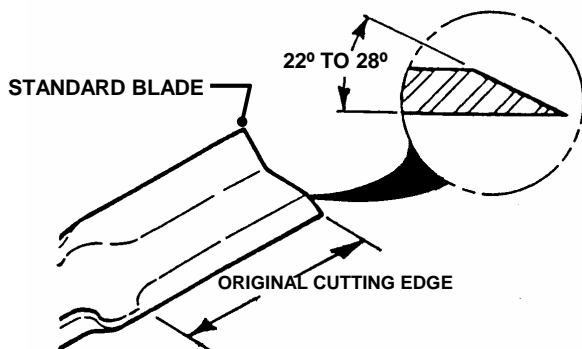

FIGURE 4.20
5. If a blade is in good condition, sharpen cutting edge at an angle of 22 to 28 degrees. DO NOT sharpen beyond existing cutting edge. Replace blades not in good condition. See Figure 4.20.